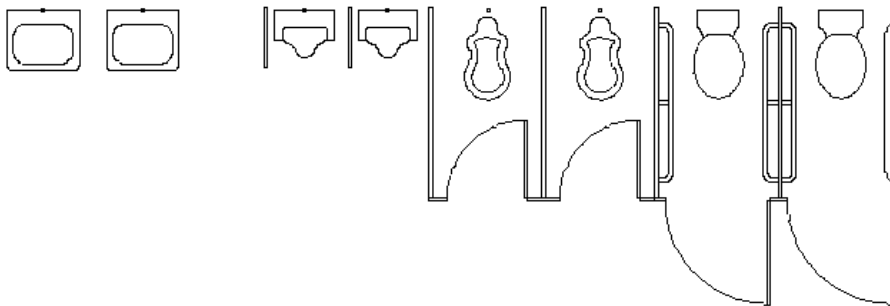

Figure 5-14: A line of fixtures drawn with the Plumbing macro.
- Once you have the list of fixtures that you want, select **Begin**. The stalls and the selected plumbing fixtures will be drawn. Figure 5-14 shows one series of fixtures drawn with the macro.